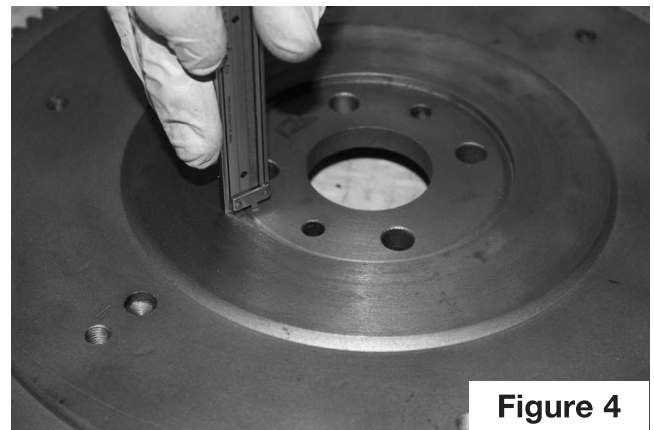

Figure 4
- 4) There must be at least a .015" gap between the seal and the back of the flywheel so it is necessary to have the back of the flywheel machined to leave a depth of .080" between the rear face and the surface which fits against the crank flange (Figure 4). Your local automotive machine shop will be able to do this when they re-surface the clutch face of the flywheel.